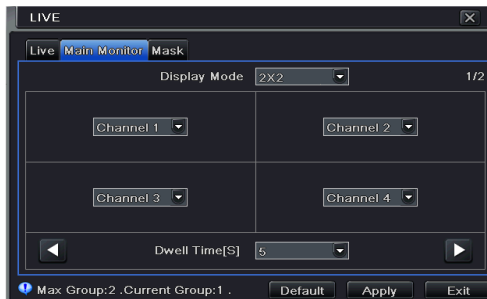

Fig 4-7 Live Configuration-Main Monitor
Step 1: Enter into Menu→Setup→Live →Main Monitor interface. Refer to Fig 4-7: